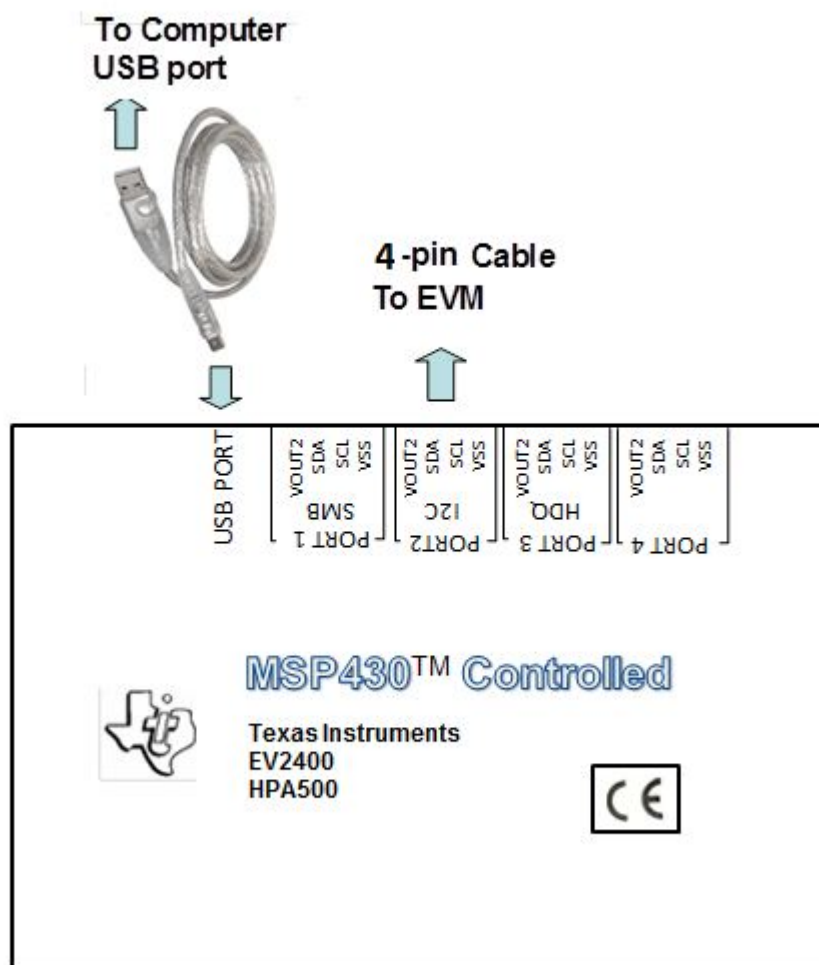

Figure 3. Connections of HPA172 Kit
Because the bq24188 has the watchdog timers enabled, it is recommended that you set the software's **Reset Watchdog Timer** to reset every 5 seconds. Otherwise, after 30 seconds of operation, the IC enters Default mode. Note that the 27-minute safety timer is not reset by this function and eventually times out if charging does not complete, unless the **Safety Timer Time Limit** is expanded or disabled via the GUI. One way to reset the safety timer is to allow the 30-second watchdog timer to expire. See Figure 3 in the data sheet for more information about the timers.
7. Connect J17 to EV2400 kit by the 4-pin ribbon cable. Connect the USB port of the EV2400 kit to the USB port of the computer. The connections are shown in Figure 3.